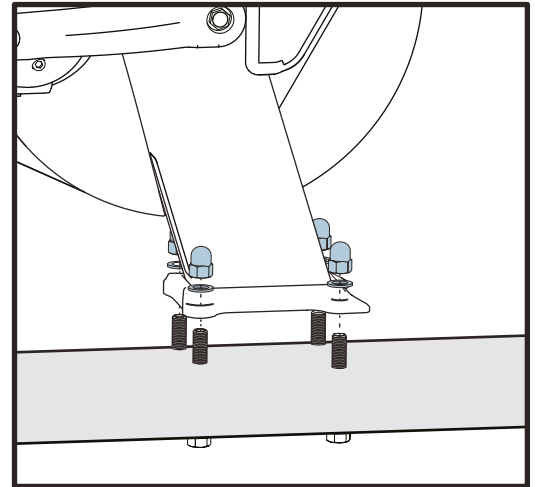

Figure 1. Cycle and Base Alignment
1. Align the holes of the cycle with the studs of the base, refer to Figure 1. The front of the cycle should face the wheels of the base.